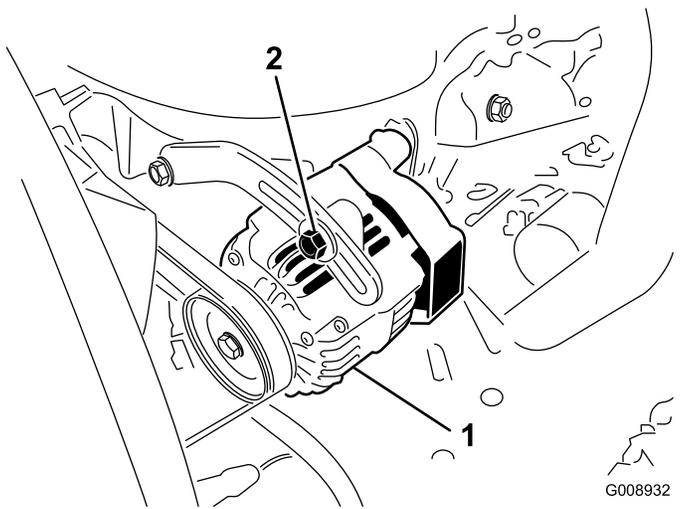

Figure 92
2. If the deflection is not 10 mm (3/8 inch), loosen the alternator mounting bolts (Figure 92).